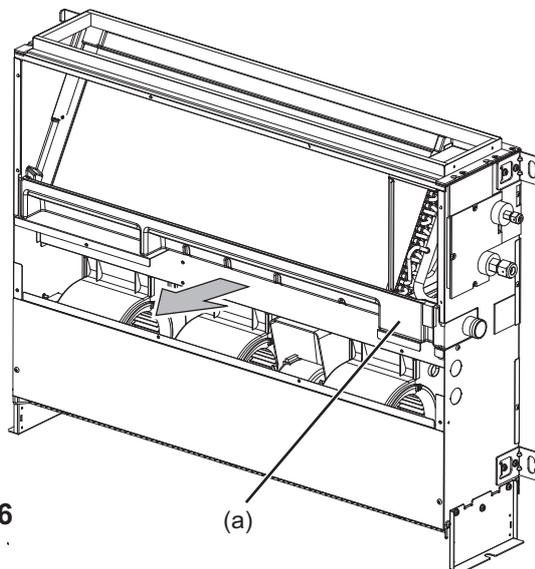

Fig. 6
- (1) Drain the water out of the drain pan before removing it.
- (2) Pull out the drain pan in the direction of the arrow. (Fig. 6)